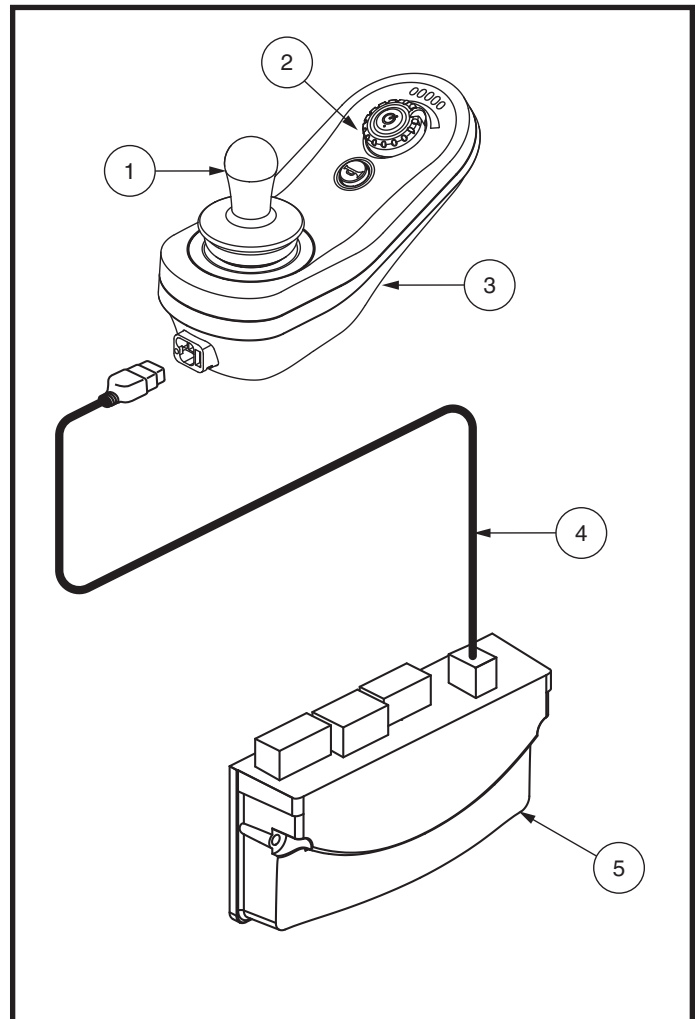

Figure 1. LiNX Controller
**Figure 1** provides information on the LiNX controller components and connections. Use this diagram to familiarize yourself with the function and location of each component before using the LiNX controller.
The LiNX controller consists of (see figure 1):
The battery condition meter consists of five LEDs arranged in an arc over the on/off and horn keys. **See figures 1 and 2.** When functioning as the battery condition meter, this indicates the status of the electrical system using LED codes. For example, as the battery voltage drops, the number of LEDs reduces from right to left. When the battery capacity drops to 10% or below, the left red LED will flash.